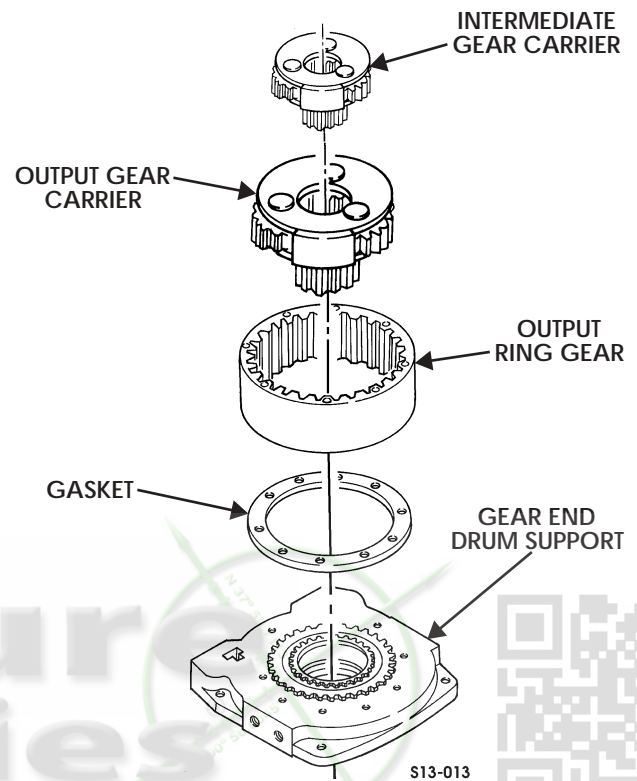

Figure 13-11: Gear Carriers
23. Remove intermediate gear carrier and output gear carrier from output ring gear and gear end drum support (Figure 13-11).